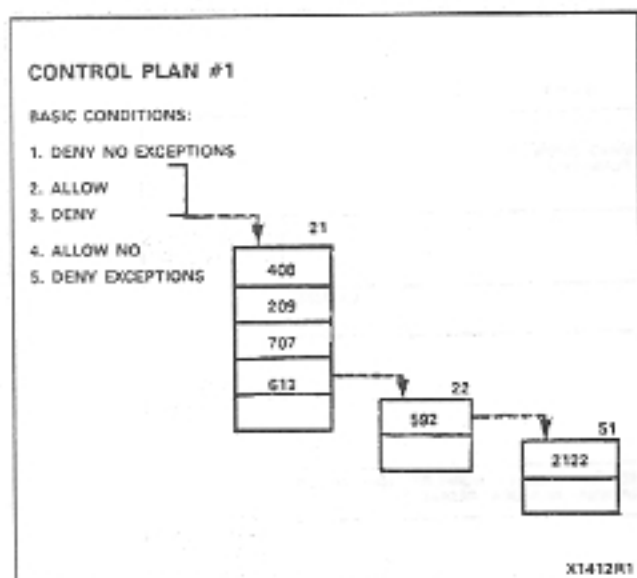
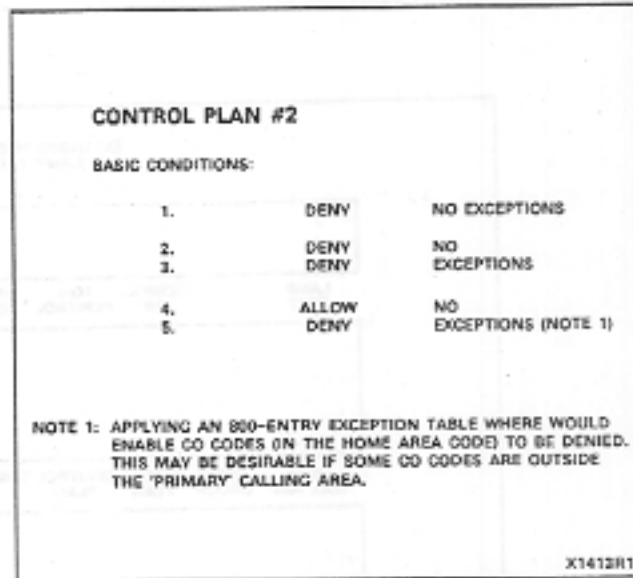

Fig. 5-5 Control Plan 1 of Example
Fig. 5-6 Control Plan 2 of Example
4.19 When it is determined that exceptions are required for a basic condition, a table is assigned to store the exceptions. ANY unassigned table, regardless of the type, may be assigned. Figure 5-5 shows a typical exception sequence for Control Plan 1. Here a 20-range table (Table 21) has been assigned as an Exception Table to basic conditions 2 and 3. This indicates that all 3-digit codes dialed after a "1" will be denied unless the code appears in Table 21. As shown, several area codes have been entered.
5.15 The only remaining task is to define the Control Plans. Figure 5-5 shows the set-up for Control Plan 1. Figure 5-6 shows Control Plan 2. The type of any digit tables used can be found by noting the table number and referring to Table 4-1.